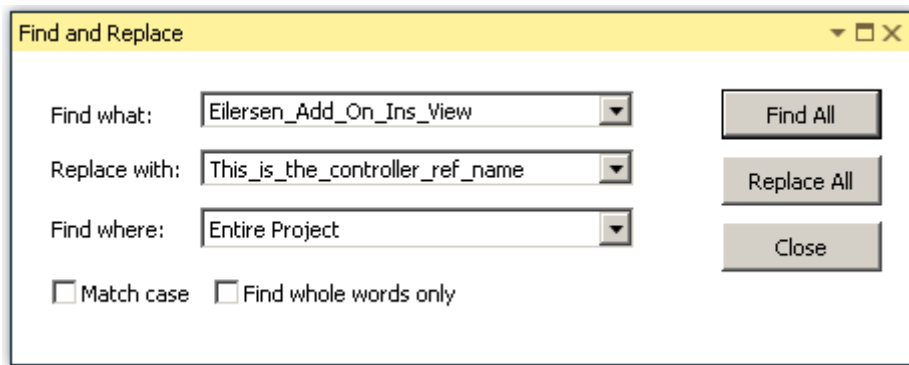

Figure 18 - Find and Replace to remove warnings/errors
- Go to the tab “Edit” and click on the “Find and Replace...”. See Figure 18 on what to find and where to find it. Under the “Replace with” type your controller reference name. Click on “Replace All”.